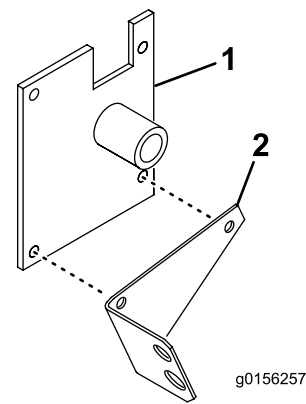

Figure 13
2. Secure the top of the right hopper mounting bracket to the right side of the machine with (2) 3/8 x 1 inch capscrews and 3/8 inch lock washers (Figure 13). The notch in the bracket is to fit around the hood latch.
3. Secure the bottom of the bracket and coupler bracket to the frame with (2) 3/8 x 1 inch capscrews and locknuts (Figure 13).